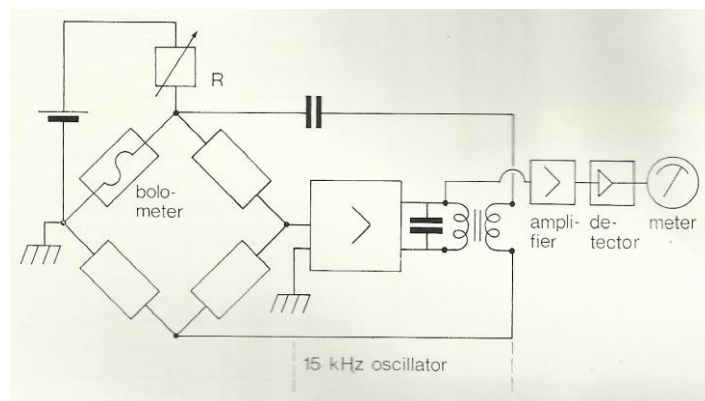

Figure 4: Simplified diagram of the PM7841 power meter
The PM7841 model power meter to be used in this experiment is a self-balancing bridge. The bias signal is both a DC signal and a 15 kHz low-frequency (LF) signal (Figure 4).